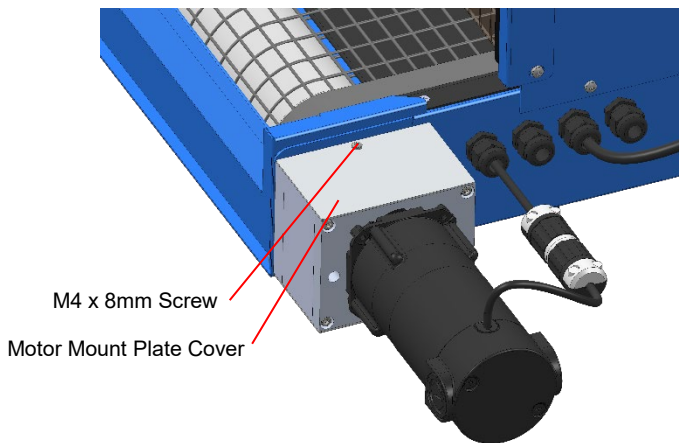

Figure 12. Install Motor Mount Plate Cover
8. Install the Motor Mount Plate Cover and M4 x 8mm screw (Figure 12).